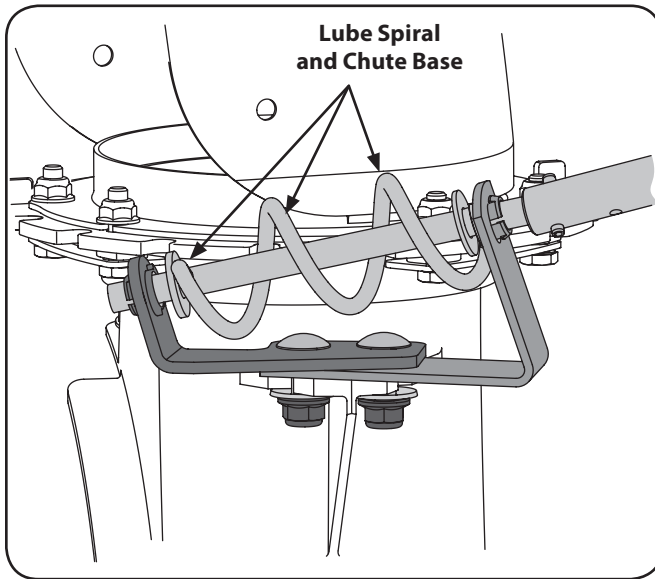

Figure 6-1
The spiral on the end of the chute crank flex shaft and the base of the discharge chute itself should be lubed with multi-purpose automotive grease once a season. See Figure 6-1.
1. Loosen, but do *not* remove the two flange nuts which secure the support bracket to the snow thrower housing. See Figure 6-1.